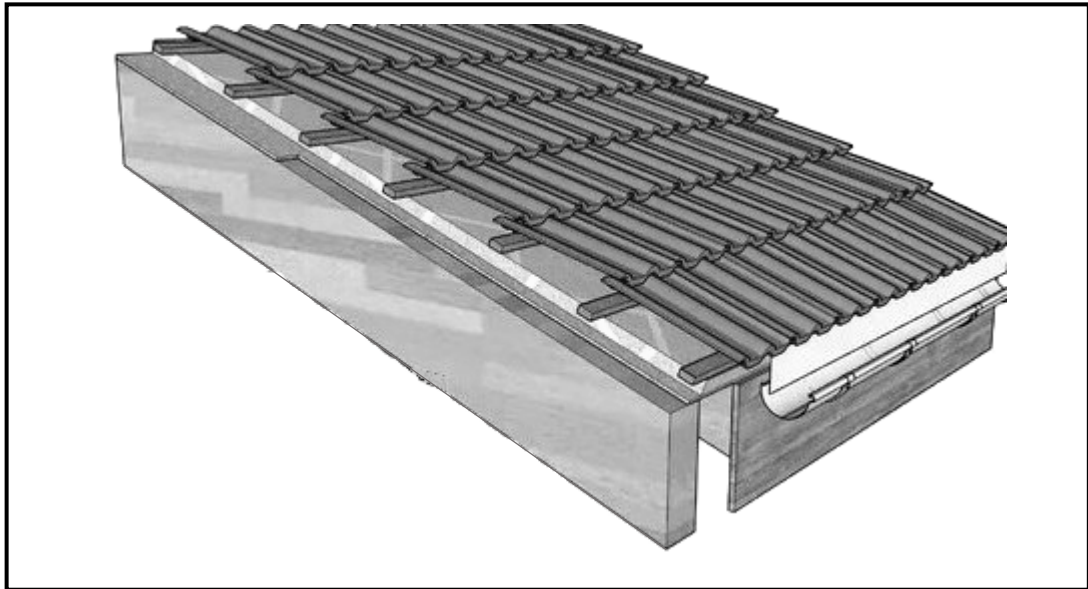

FIGURE 3.1
3.1 FIGURE 3.1 below shows a roof construction where clay roof tiles are used.